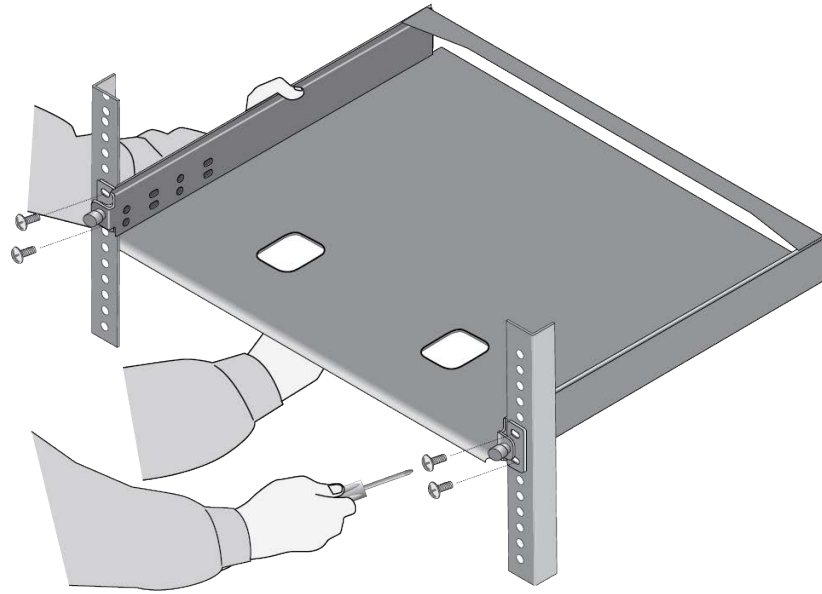

Figure 31. Installing the RKMT-J15 Bracket in the Equipment Rack
1. Have another person hold the RKMT-J15 Bracket at the desired location in the equipment rack while you secure it using four standard equipment rack screws (not provided). Refer to Figure 31 on page 80.